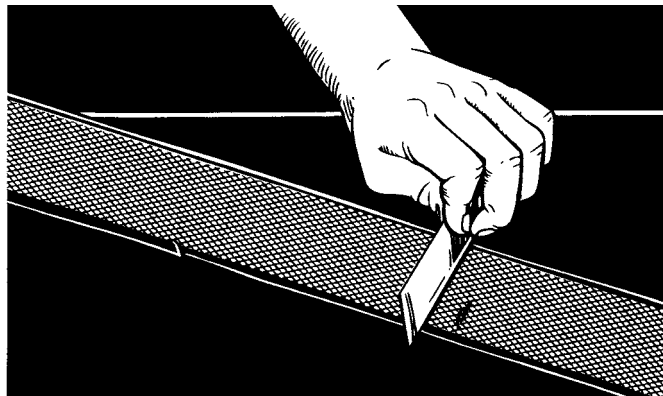

Fig. 11-14
35. Use a small straight edge to check for the proper gauge of fill-in gum. The straight edge should make imprints on the gum (Fig. 11-14). Any low spots should be built up.